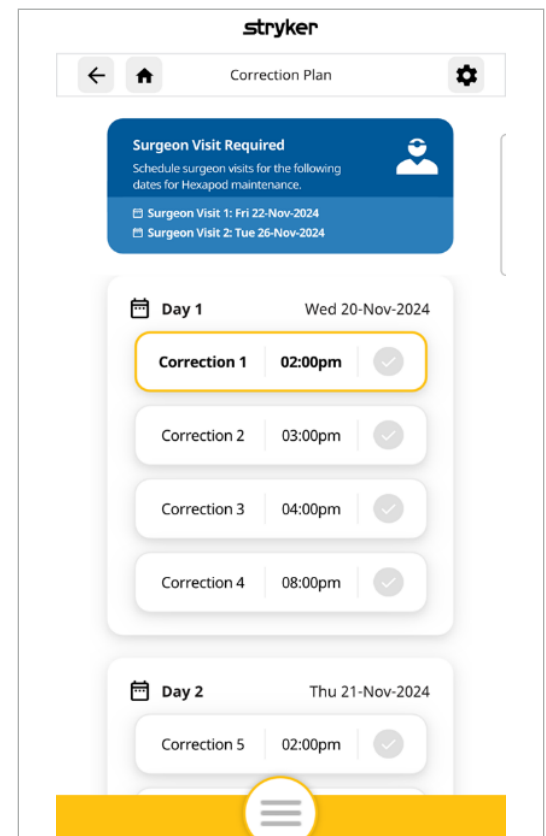

Figure 35
- The upcoming correction will be highlighted with a gold box. (Figure 35)